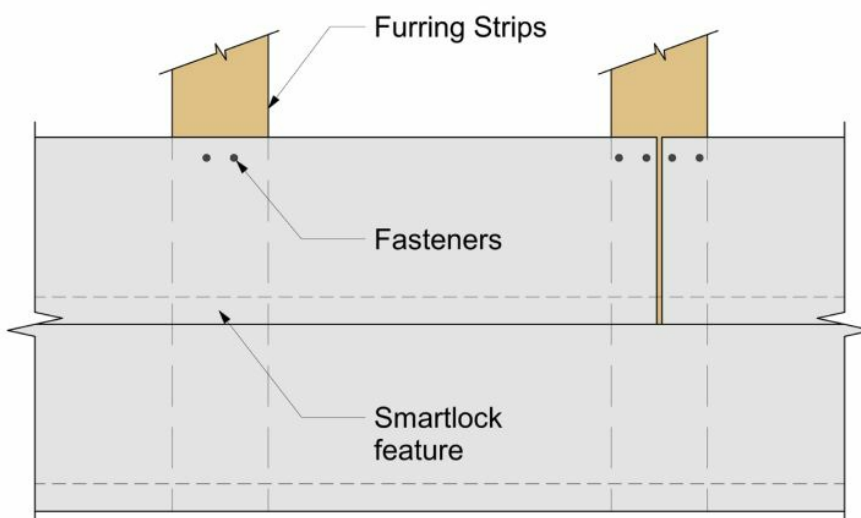

Figure 3
- Blind nail two fasteners per furring strip every 16" o.c. (400 mm). (Figure 3)